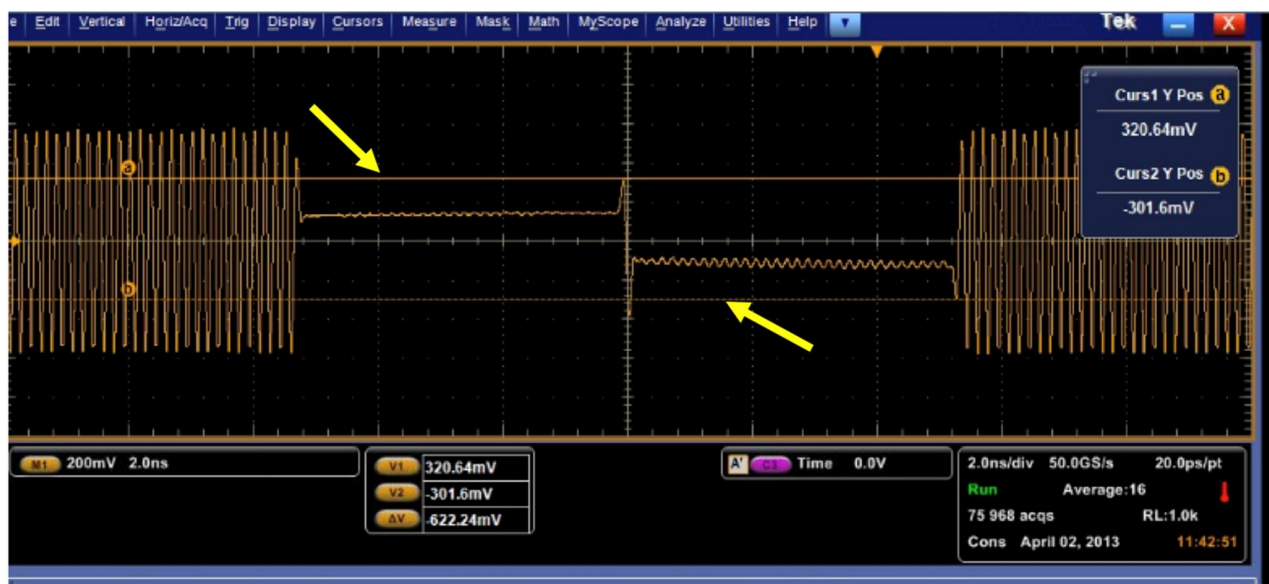

FIGURE 60. MEASURED PRE-SHOOT AMPLITUDE (EXAMPLE 622mV)
1. Using cursors, measure pre-shoot amplitude, as shown in Figure 60.